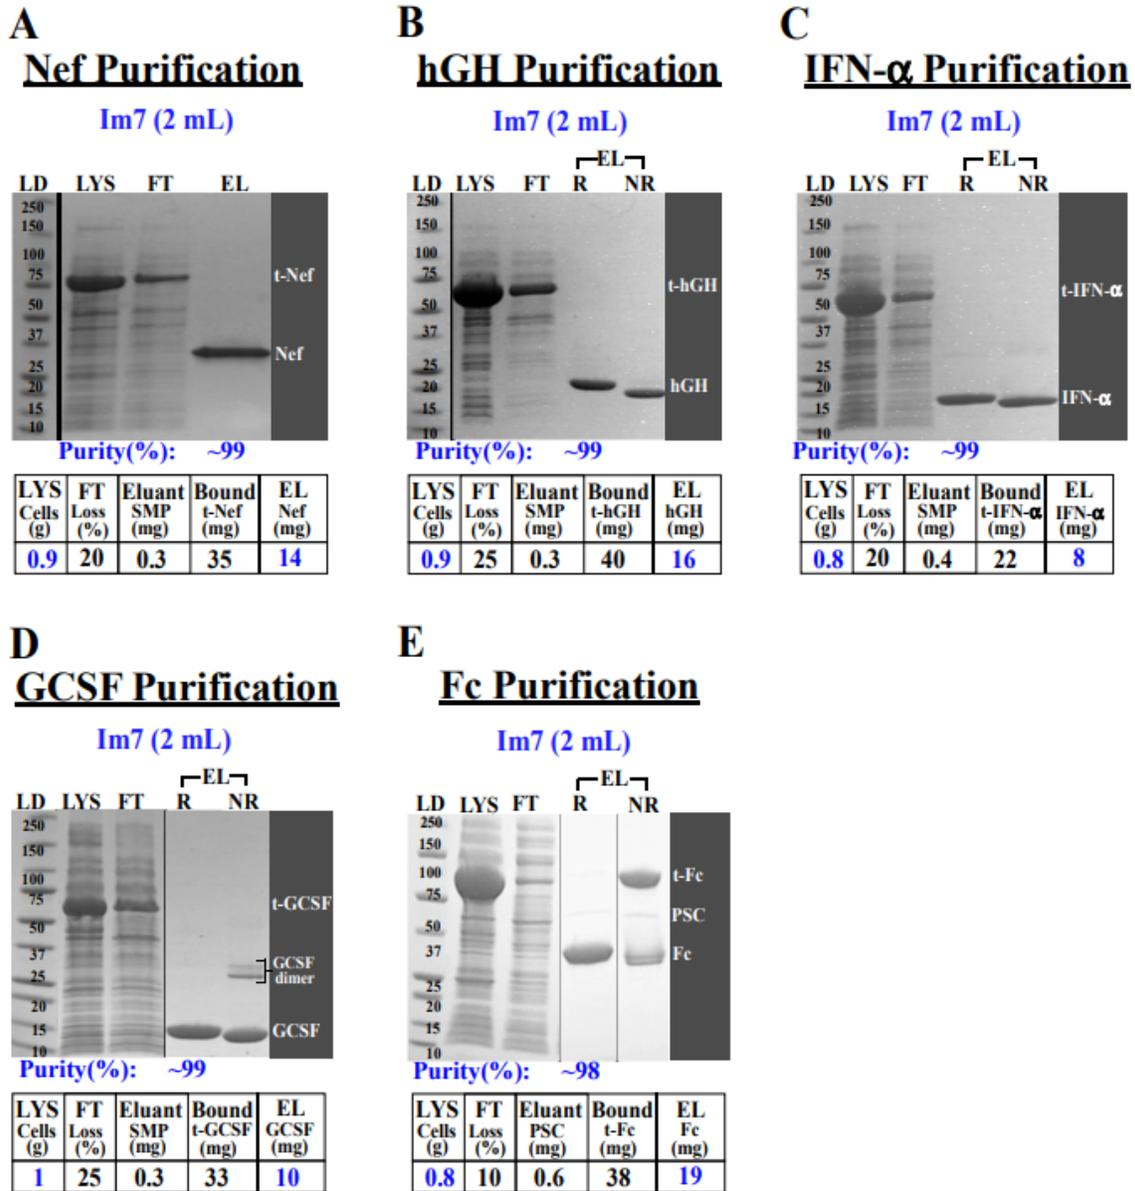

Figure 3.5A-3.5E: Purification of therapeutic proteins purified under essentially identical conditions in one step with the CL7/Im7 method.
A. HIV Nef protein (MW ~25 kDa) | This protein is essential for HIV infection and is a target for drug design (**Fig. 3.5A**).